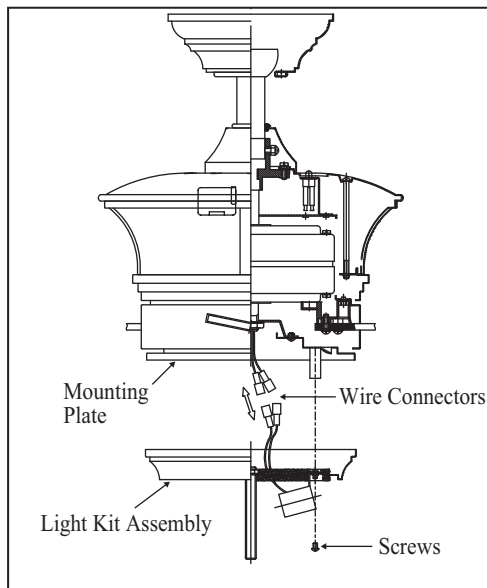

Figure 17
3. Place the key holes on the light kit assembly over the 2 screws previously loosened from the mounting plate, turn light kit assembly until it locks in place at the narrow section of the key holes. Secure by tightening the 2 screws previously loosened and the one previously removed. (Fig. 17)